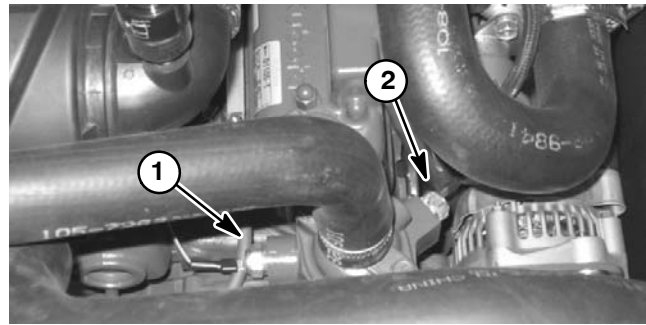

Figure 13
C. High temperature warning switch and high temperature shutdown switch (Fig. 13).
- C. High temperature warning switch and high temperature shutdown switch (Fig. 13).